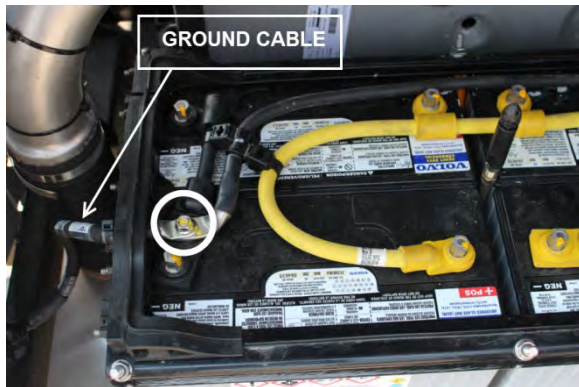

FIGURE 32: DISCONNECT GROUND CABLE FIRST
2. Disconnect the ground cable first (**Figure 32**).